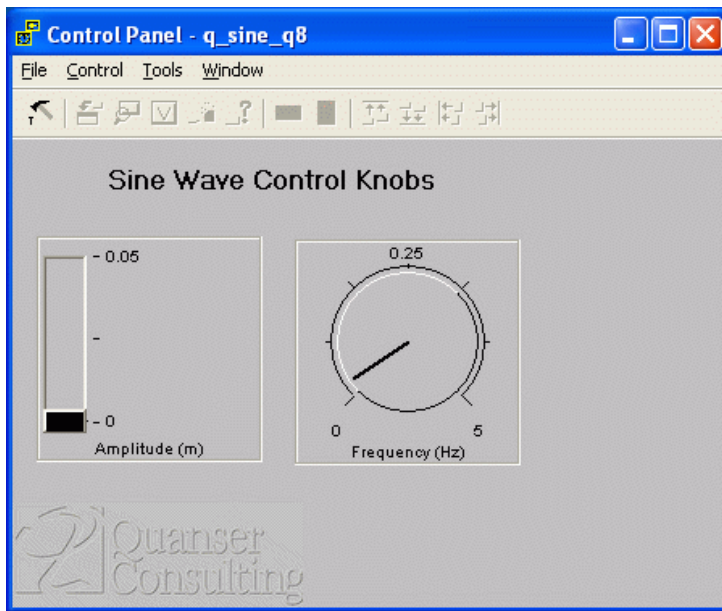
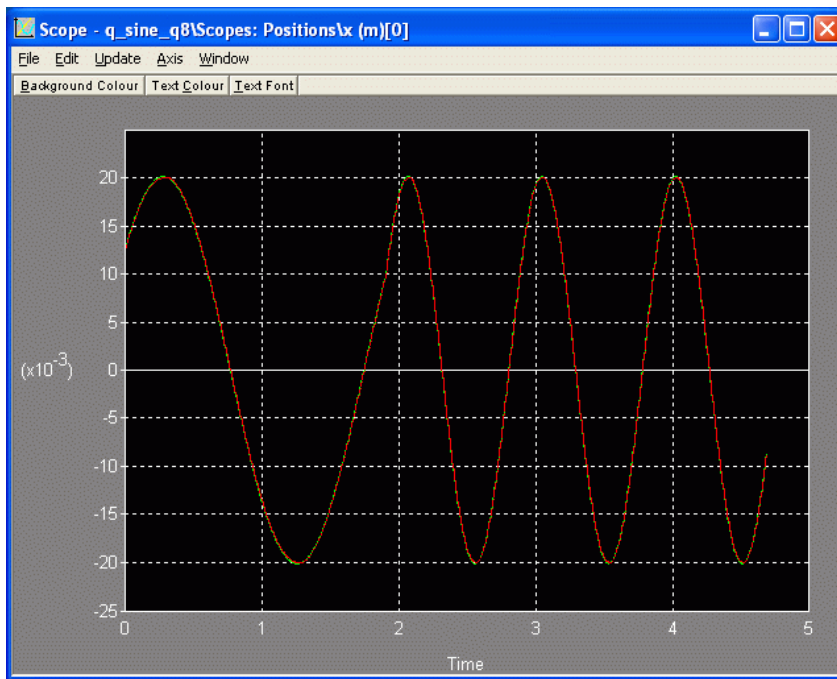

Figure 18: Front panel of sine wave WCP.
Figure 19: The x (m) scope when running the q_sine_q8 controller.
4. In the WinCon Server window, click on File | Open and select the WinCon Project file $q_sine_zz.wcp$. The project contains the control panel shown in Figure 18 and the $x(m)$ scope, depicted in Figure 19 with results. The control panel has a vertical slider to change the amplitude of the sine wave position command and a knob to control the frequency of the signal.
7. Move the vertical slider in the Control Panel to 0.02 meters. The stage should begin tracking a sine wave of 20 cm at a frequency of 0.5 Hz. The x (m) scope displays the desired or commanded position set by the user and the resulting measured position. Figure 19 illustrates the results when the sine wave frequency is changed from 0.5 Hz to 1.0 Hz at around the 2 second mark. As shown, both the desired and measured responses are almost identical (however, there is always a small discrepancy due to the sampling delay).